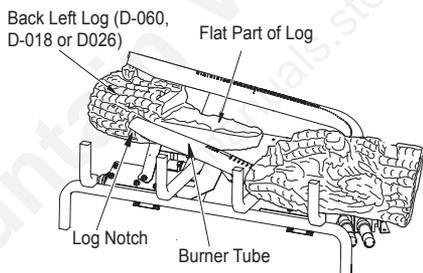

Figure 25 - Installing Back Left Log
2. Find the back left log SouthernComfort24A/B or ShadyHollow24A/B models: D-060, SouthernComfort30A/B or ShadyHollow30A/B models: D-018, SouthernComfort36A/B or ShadyHollow36A/B models: D-026). See *Figures 25, 25A, and 25B*. *Figure 25A* shows how the log must fit against the end
of the burner. **Figure 25B** shows how the notch in log fits against the vertical portion of the burner tube. Place this log on the base assembly by inserting it from the left side as shown in **Figure 25**. You will need to twist the log slightly to get it to fit against the burners properly. It will rest even with the back edge of the pan.